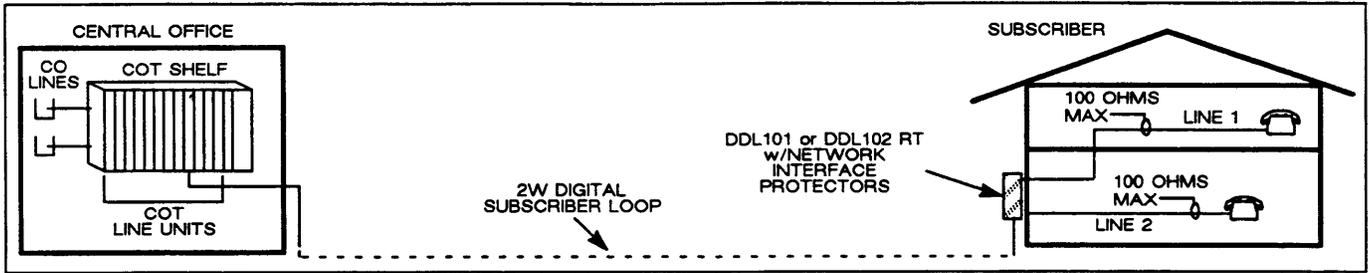
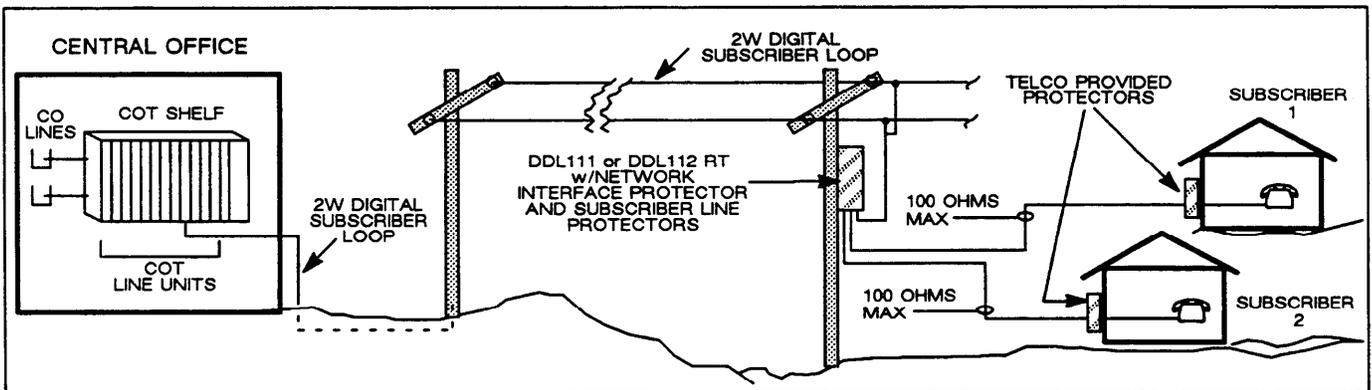

Figure 2. Typical DDL101 or DDL102 RT Application Showing Two Lines For One Subscriber
Figure 3. Typical DDL111 or DDL112 RT Application Showing One Line Each For Two Subscribers
2.01 Typical applications of the Wescom DualLine Plus System are shown in Figures 2 and 3. Figure 2 shows an application providing one subscriber with two telephone lines. Figure 3 shows an application providing telephone service to two different sub-